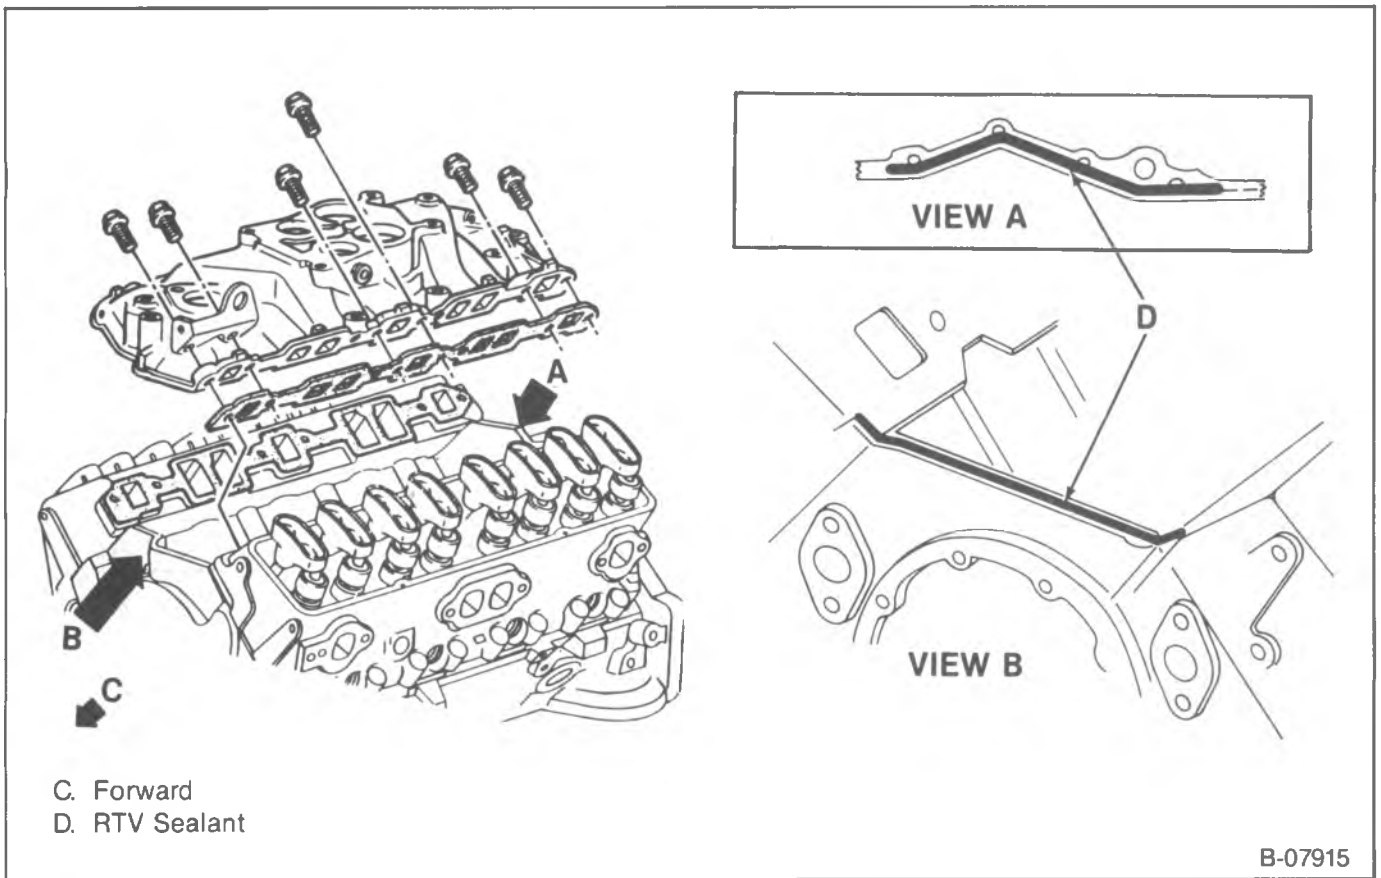

Figure 8—Intake Manifold
Install or Connect (Figures 8 and 9)
2. RTV to the front and rear sealing surfaces on the block (figure 8). Apply a 5 mm (³/₁₆-inch) bead of RTV (part number 1052366 or equivalent) to the front and rear of the block as shown. Extend the bead 13 mm (1/2-inch) up each cylinder head to seal and retain the gaskets.